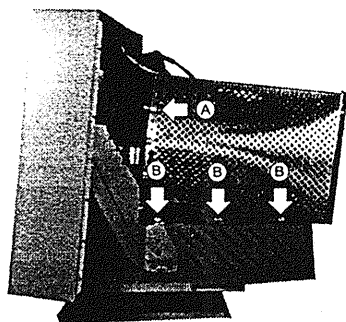

Figure 2-2 Remove the Shield (right side)
1. Disconnect the ground wire from the shield. Refer to the figure 2-2 (A).
2. Remove the three screws from the shield. Refer to the figure 2-2 (B).